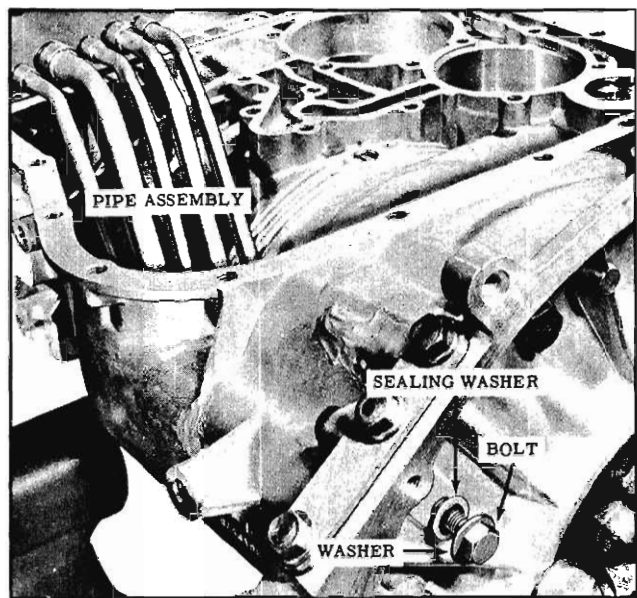

Fig. 6-26 Pipe Assembly Removal
17. Remove the pipe assembly attaching bolt, washer and seal from front of case cover and withdraw the pipe assembly and seals from transmission. Multiple seals may have remained in transmission. (Fig. 6-26)